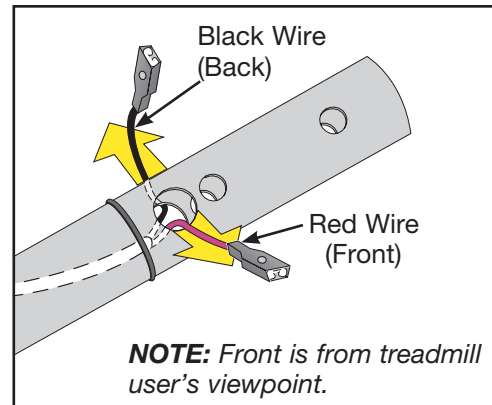

Figure 30
- D. Fold the each cable and place it into the hole that leads to the grip. See Figure 30.
- E. Push each wire out a hole (red out the front hole and black out the back hole). See Figure 30.